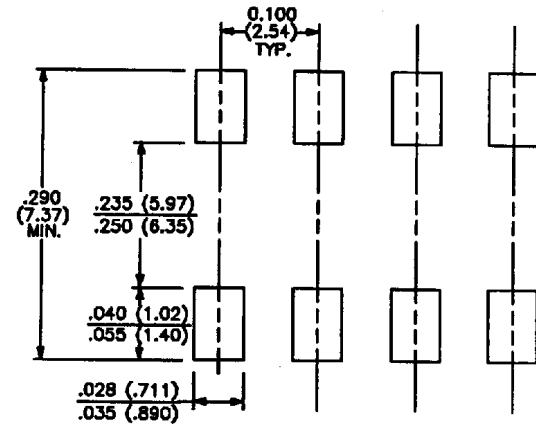

FIGURE 29: Recommended footprint, 8-pin J-Style.
- Figure 29 represents the 8-pin J-STYLE solder pad we recommend.